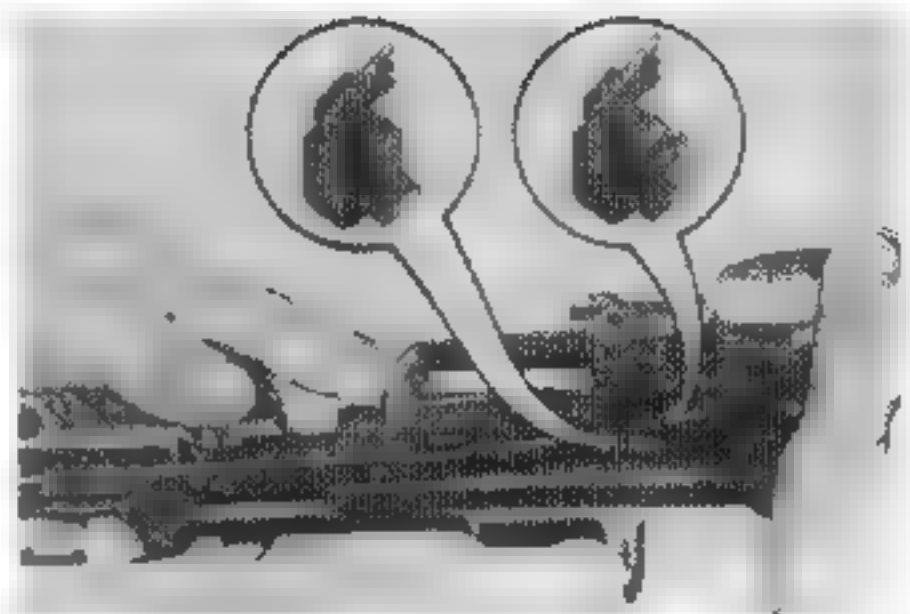
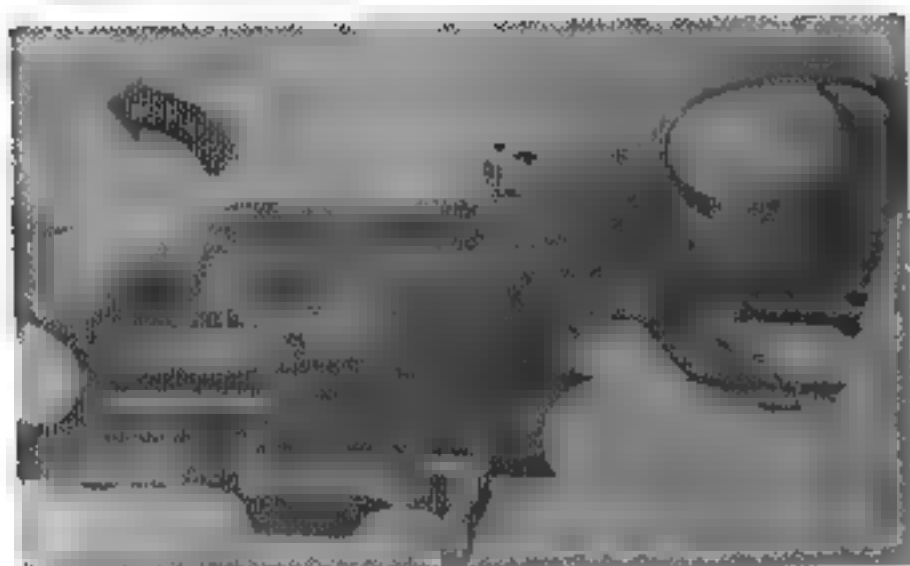

Figure 9. Removing the disconnecter lever assembly.
Figure 10. Removing the disconnecter lever assembly
h. To remove the disconnecter lever assembly, push on the trigger housing and selector pin, unseating the disconnecter lever (Fig. 9). Remove the disconnecter lever assembly. If the disconnecter on your weapon has a slotted groove instead of a shoulder, disengage the rear end of the disconnecter lever before attempting to remove the disconnecter lever assembly. To do this, unseat the disconnecter lever assembly and then rotate the crank forward, disengaging the rear end of the disconnecter lever from the slotted groove of the disconnecter (Fig. 10). Now, remove the disconnecter lever assembly.